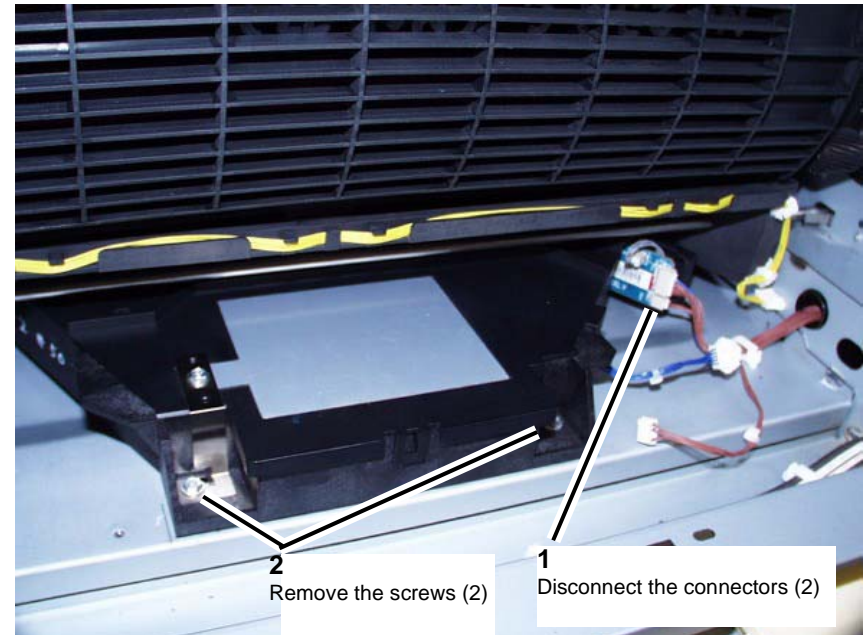

Figure 2 Preparing to remove the ROS Assembly
5. Preparing to remove the ROS Assembly. (Figure 2)